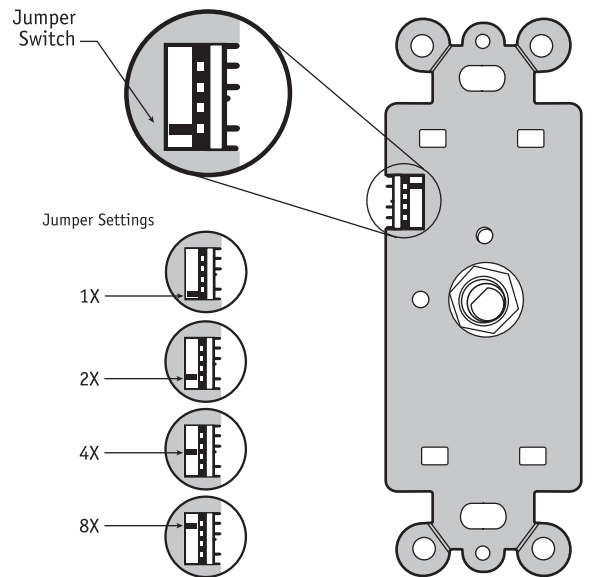

Figure 1
- 4.) Set the impedance match jumpers on all of the volume controls in the system to the same position (1X, 2X, 4X or 8X). See **Figure 1**.
NOTE: If your jumper setting switch only has four positions it may not include the 1X setting that was excluded in early production. Also some earlier production models may not show the settings on the faceplate so you will need to follow the positions shown in Figure 1 on other side of this page.